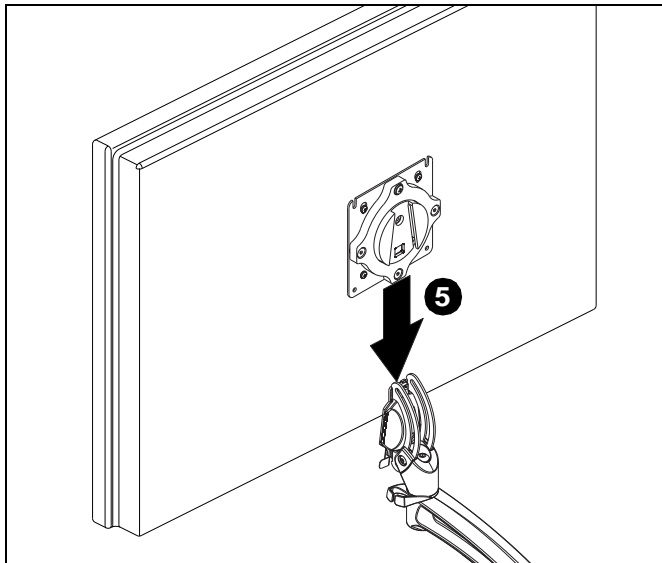

Figure 5
4. Position display with faceplate attached above mount. (See Figure 5)
5. Slide faceplate onto mounting head until quick release tab clicks into place. (See Figure 5)